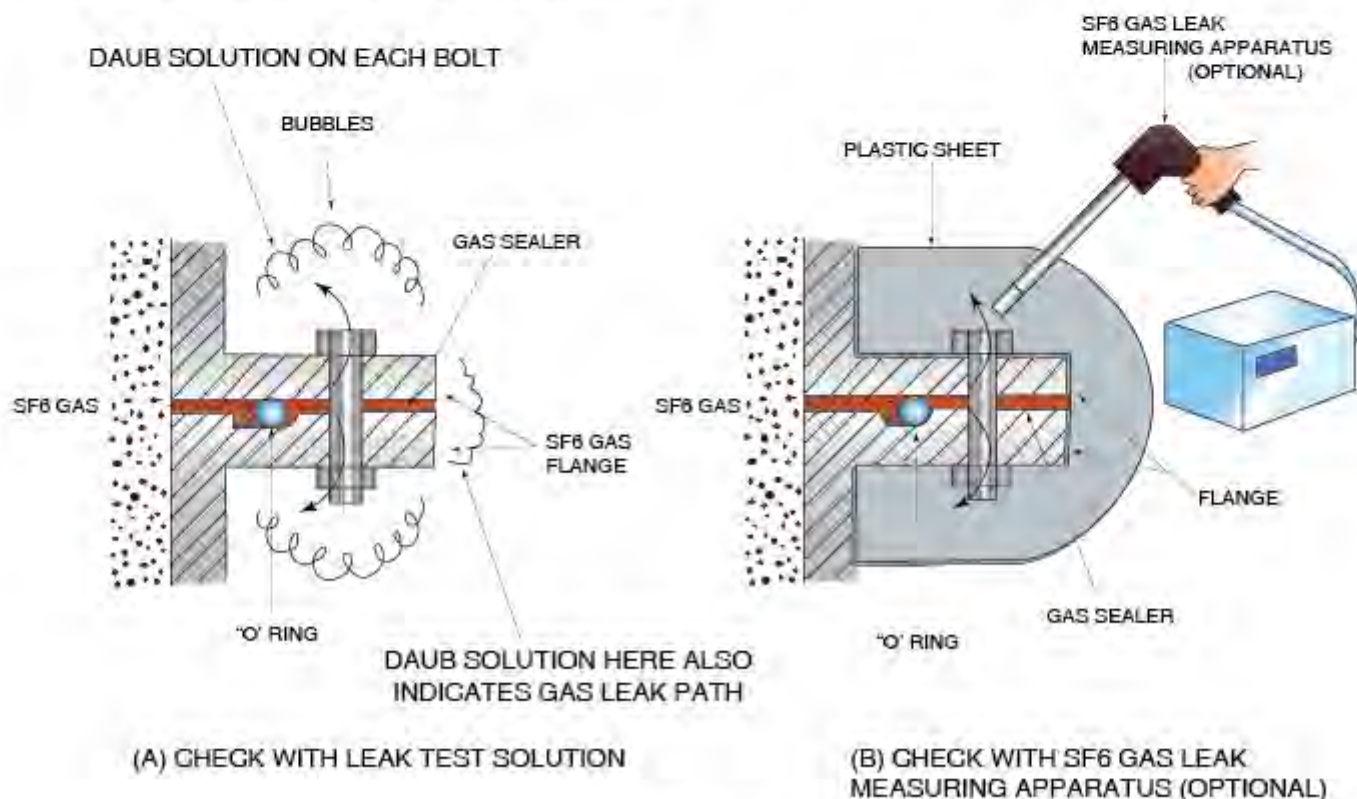

FIG. 11
6.5.5 Gas Leak Inspection [Refer to Fig. 11]
[a] Check with test solution [Refer to Fig. 11 [a]]. Daub test solution over the gas sealed connection. Check for bubbles for more than 30 seconds. If no bubbles appear, wipe off the solution.
[b] Check with leak Detector [Refer Fig. 11[b]]. Cover the joint to with plastic sheet and tie properly so that the air can not escape. Allow the joint for minimum four hours for collecting any leaked gas. Then Homogenize the air contained and insert the probe.